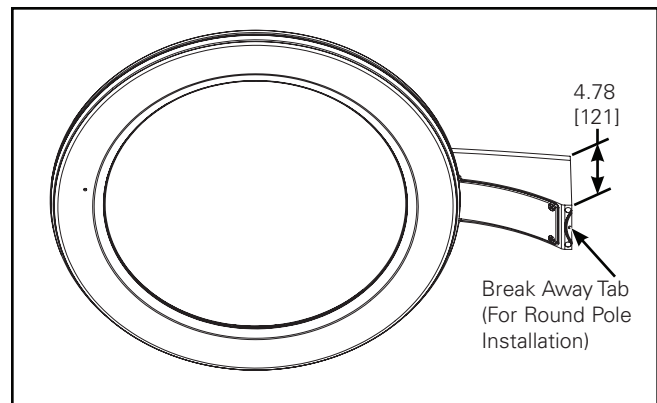

Figure 2.
1. Pole mounting arm is designed for a square or round pole. Round pole installation will require the mounting arm break away tabs to be removed. Grab break away tab with pliers and break-away the tab. (Figure 2.)